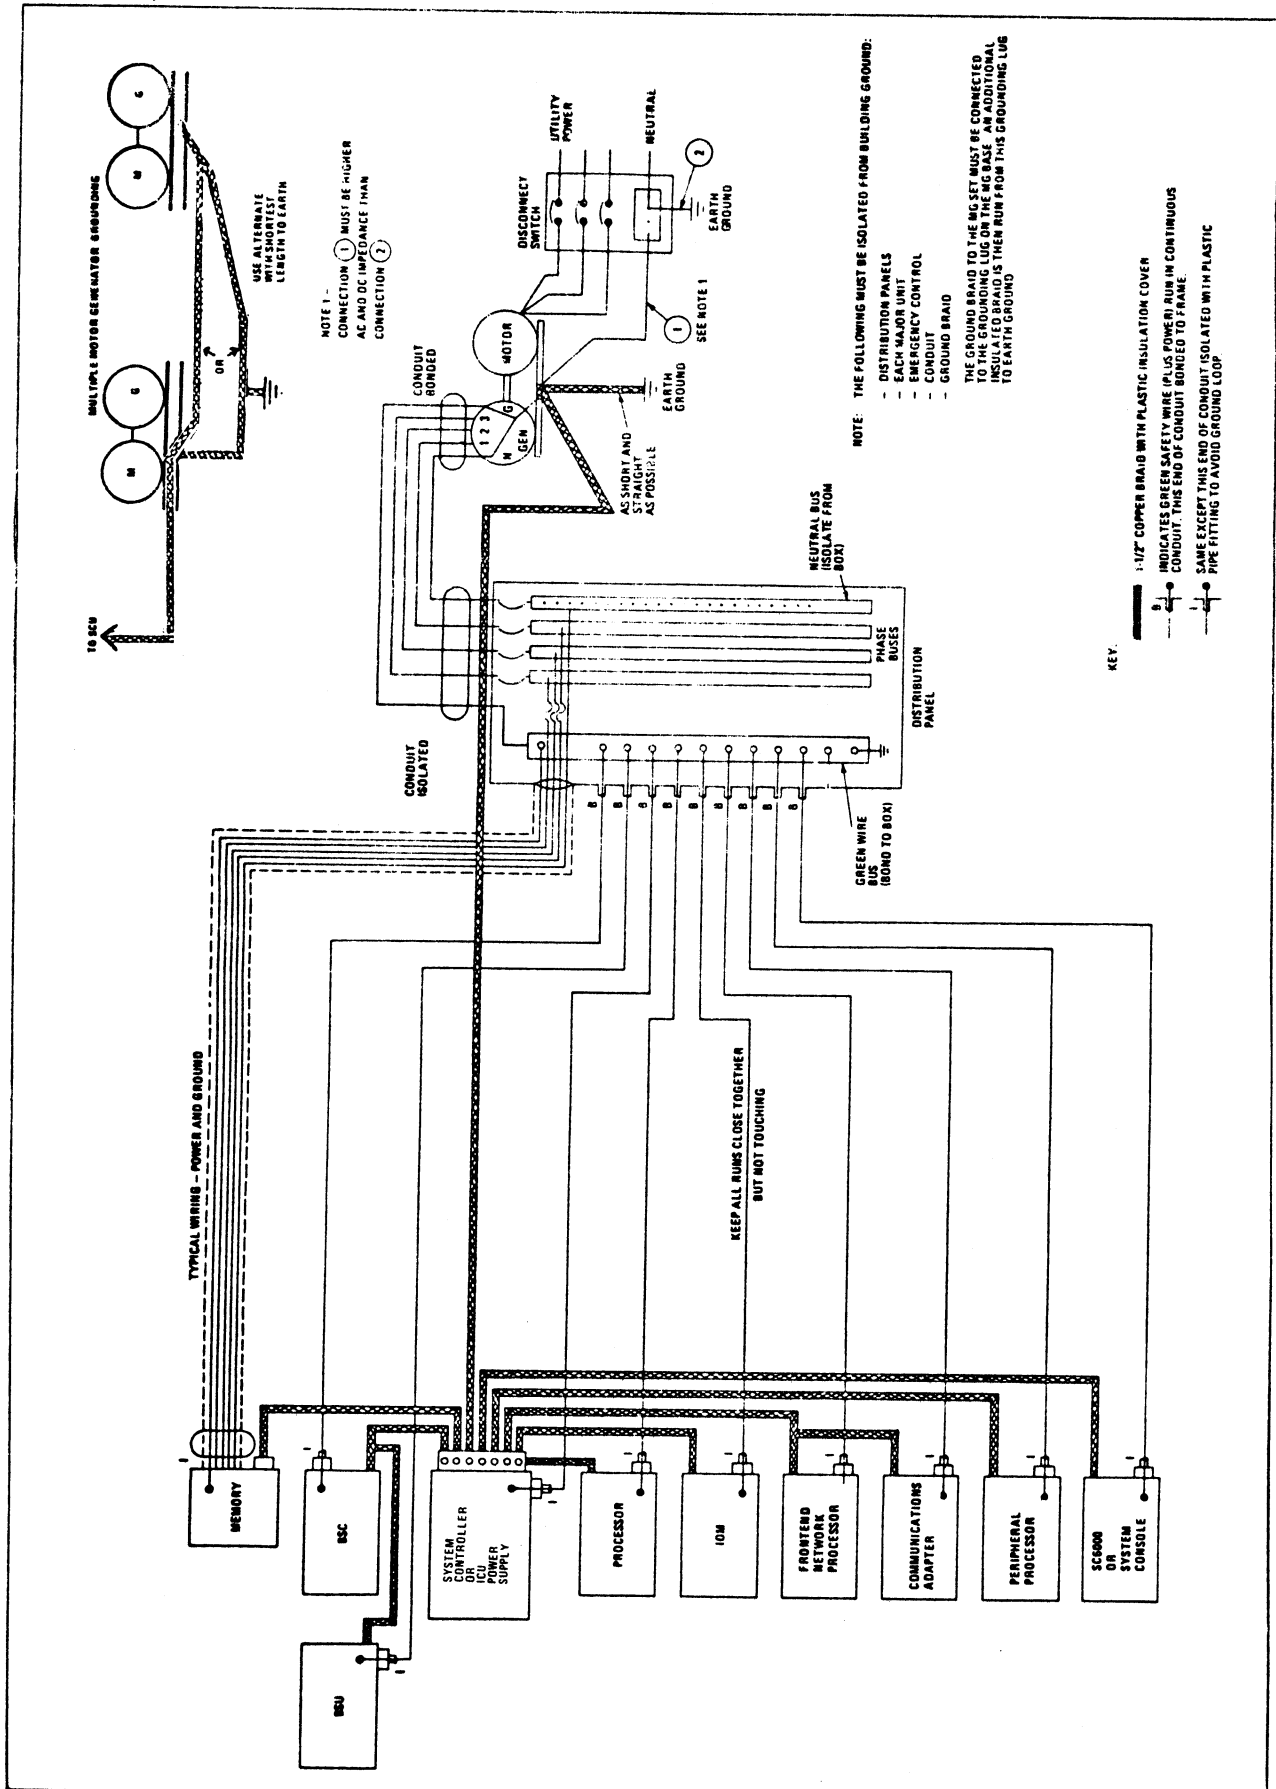

Figure 2-2. Ground System — Central System
4. All runs in metal conduit must be isolated for their entire length from building ground and from each other. Insulated conduit material may be required to meet this specification. Plastic bushings are required to electrically isolate conduit from the computer units (see Figure 2-2).
1. Every equipment power run must have a separate, continuous, insulated wire for use as a frame (protective) ground (sometimes referred to as the "green wire" ground). It is run inside the conduit or power cord with the conductors and ac neutral. The frame ground wire must be securely fastened to the frame ground bus or terminal provided in the equipment and to the power distribution panel frame or ground bus (NOT the ac neutral bus). See Figure 2-2.
ent in the central system. To minimize the inductance of these loops, with the high frequencies involved, low-impedance conductors (tinned copper braid) are used to establish a system ground network. This ground network provides the low-impedance connection required to keep the reference ground of all equipments in the central system at a common potential. See Figure 2-2.